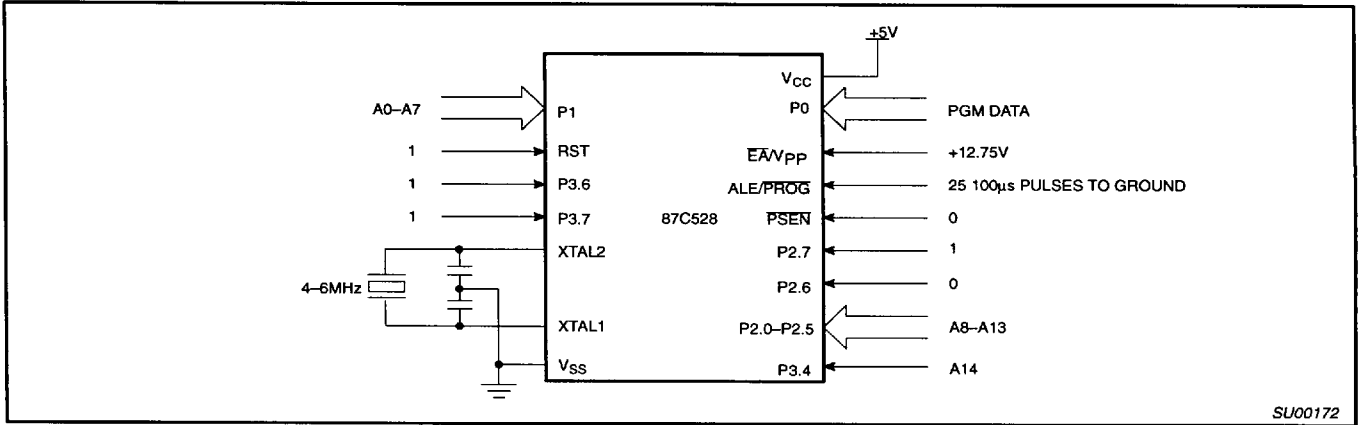
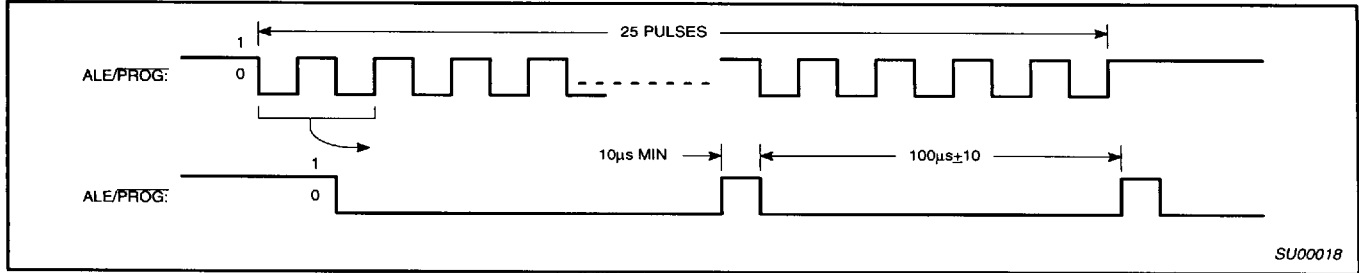
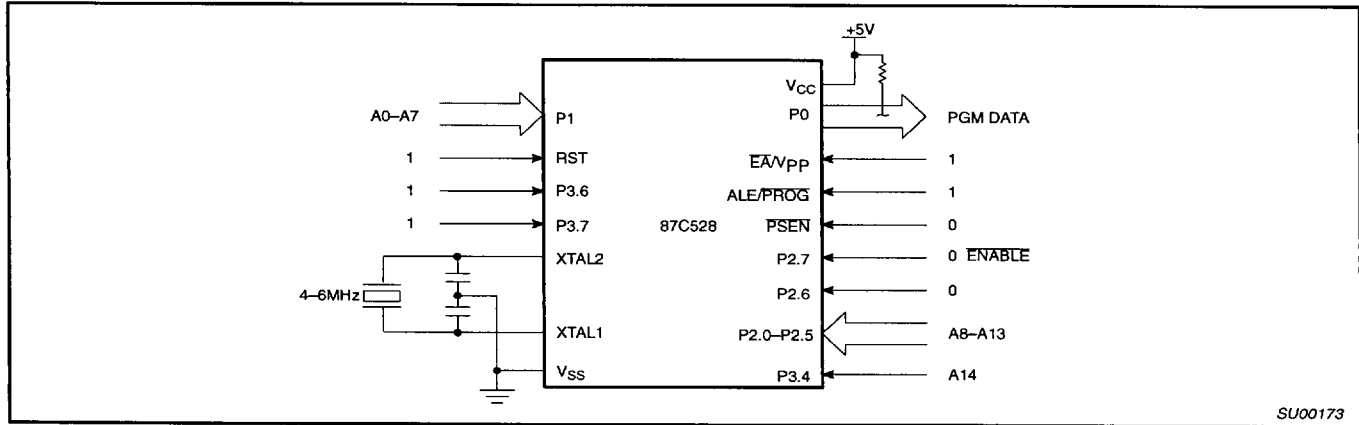

Figure 14. Programming Configuration
Figure 15. PROG Waveform
Figure 16. Program Verification
Table 6 shows the logic levels for reading the signature byte, and for programming the program memory, the encryption table, and the lock bits. The circuit configuration and waveforms for quick-pulse programming are shown in Figures 14 and 15. Figure 16 shows the circuit configuration for normal program memory verification.
The setup for microcontroller quick-pulse programming is shown in Figure 14. Note that the 87C528 is running with a 4 to 6MHz oscillator. The reason the oscillator needs to be running is that the device is executing internal address and program data transfers.
The address of the EPROM location to be programmed is applied to ports 1, 2 and 3, as shown in Figure 14. The code byte to be programmed into that location is applied to port 0. RST, PSEN and pins of ports 2 and 3 specified in Table 6 are held at the 'Program Code Data' levels indicated in Table 6. The ALE/PROG is pulsed low 25 times as shown in Figure 15.
memory locations to be read is applied to ports 1, 2 and 3 as shown in Figure 16. The other pins are held at the 'Verify Code Data' levels indicated in Table 6. The contents of the address location will be emitted on port 0. External pull ups are required on port 0 for this operation.
- * FOR PROGRAMMING VERIFICATION SEE FIGURE 14.
- FOR VERIFICATION CONDITIONS SEE FIGURE 16.